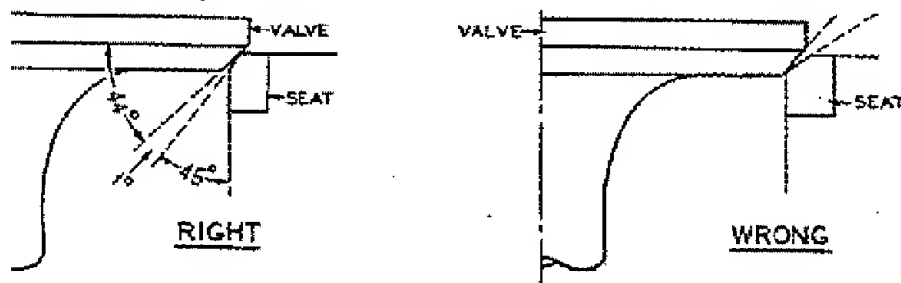

Fig. 22 Valve Seating
**VALVES.** - The exhaust valves and seats are of Stellite material, which is extremely hard and heat resistant. "Lap" grinding such valves is seldom successful. Dress the seats (both intake and exhaust) in accurate 45 degree angle. Dress the valve faces to a 44 degree angle. This will provide a very narrow band of contact between valve and seat, Fig. 22. This results in better valve seating and lessens chance of deposit built-up on valve seats and faces. Be sure to clean away all traces of abrasive, then oil the valves and guides lightly before reassembly.